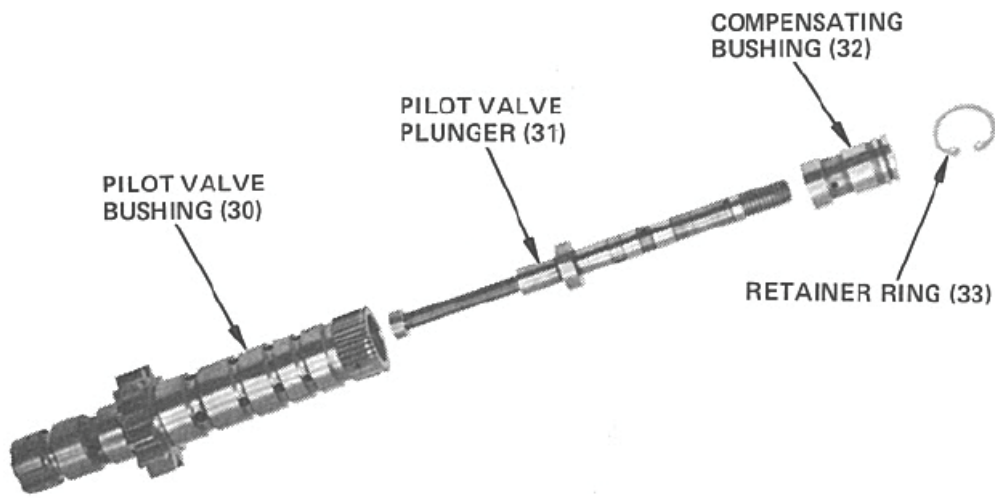

Figure 3-11. Pilot Valve Bushing Assembly
7. Assemble pilot valve plunger parts as shown in Figure 3-11 and 3-12.